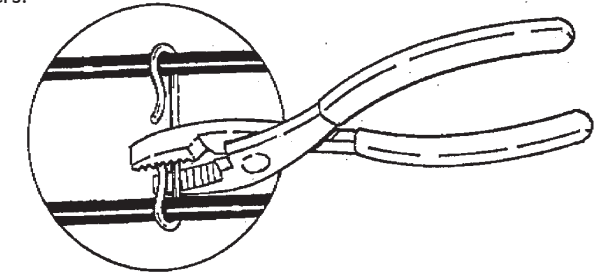

Figure 18. Squeezing spacers with pliers
• While the cable is being laid in the gutter, the spacers can be tightened with fingers or pliers. If you use pliers, squeeze gently and use care to avoid pinching, crimping, cutting into or otherwise damaging the cable (see Figure 18). Do not use a hammer to tighten the clips and spacers.
Once you know the length of cable needed, the next step is to install spacers and feed the cable into the downspout. Spacers must be attached to the cable every 6 inches so that the cable does not touch itself in the downspout. You must tighten the spacers before the cable is installed in the downspout. You may do this with your fingers or pliers. If you use pliers, squeeze gently and use care to avoid pinching, crimping, cutting into or otherwise damaging the cable (see Figure 18). Do not hammer to tighten the clips and spacers. Pull the cable into the downspout using a weighted string.
Tighten clips and cable spacers. Tighten clips and spacers on the roof. You may do this with your fingers or with pliers. If you use pliers, squeeze gently and use care to avoid pinching, crimping, cutting into, or otherwise damaging the cable (see Figure 18). Do not use a hammer to tighten the clips and spacers.